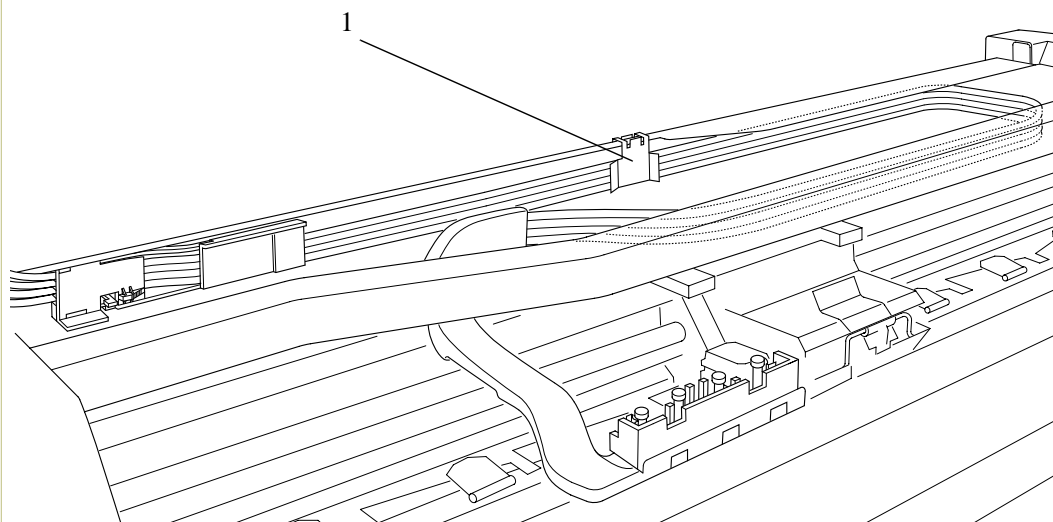

Figure 62: Tube Retaining Clip
6. Remove the tube retaining clip (item 1) from the back of the printer (refer to Figure 62).